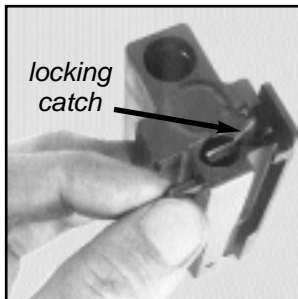

Fig. 28
- Pull out firing pin retaining pin to the left (Fig. 28).